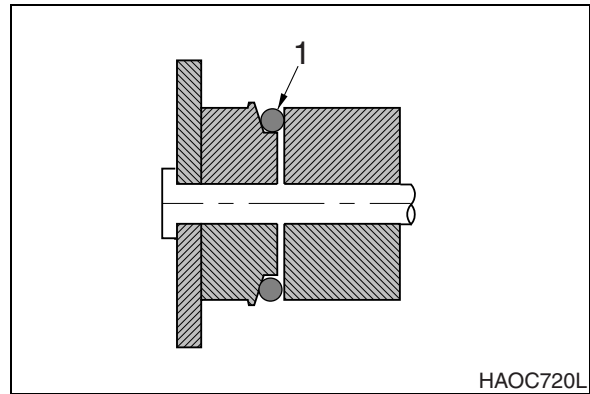

Figure 12
5. Roll the new O-ring (1, Figure 12) into the O-ring groove.